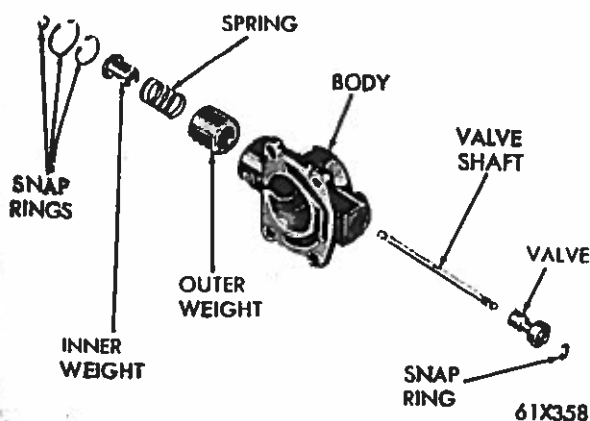

Fig. 33—Governor Assembly (Exploded View)
(3) Remove large snap ring from weight end of governor housing, lift out governor weight assembly.
(4) Remove snap ring from inside governor weight, remove inner weight and spring from the outer weight. Figure 33 shows an exploded view of the governor assembly.
(5) Remove the snap ring from behind the governor housing, then slide the governor housing and parking lock sprag assembly off the output shaft. If necessary remove four bolts and separate governor housing from the sprag.